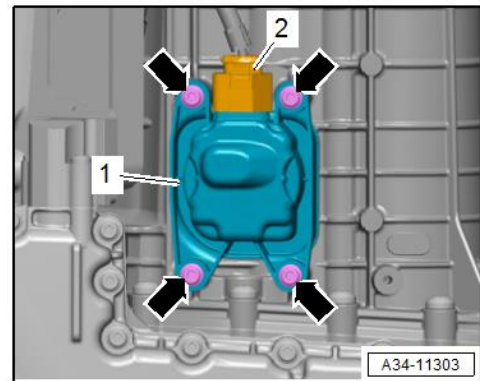

Figure 1. Gear Oil Pump V553.
- When removing the pump disconnect the connector (Figure 1, Position 2) only after the transmission fluid drains out to avoid gear oil contamination of the electrical connector.